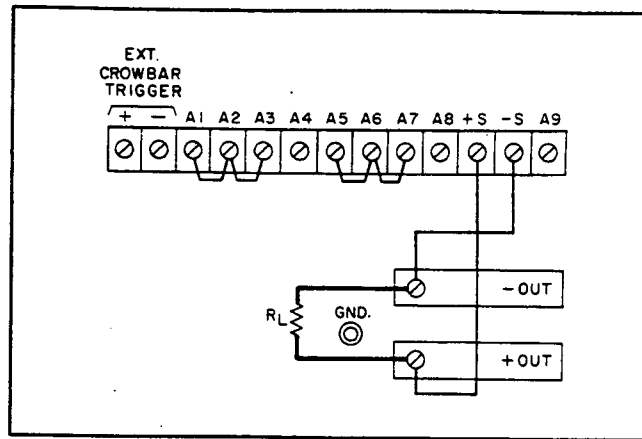

Figure 3-2. Normal Strapping Pattern
- a. Turn CURRENT controls ⑦ and OVERVOLTAGE ADJUST potentiometer ⑤ fully clockwise and check that rear panel straps are connected as shown in Figure 3-2, but do not connect load R_L .
- c. Set LINE switch or circuit breaker ① ON and observe that pilot lamp ② lights.
- d. Adjust COARSE and FINE VOLTAGE controls ③ for desired indication on voltmeter ④.
- e. Ensure that overvoltage crowbar circuit is operational by slowly turning OVERVOLTAGE ADJUST control ⑤ counterclockwise with a screwdriver until OVERVOLTAGE lamp ⑥ lights and voltmeter indication drops to zero volts.
g. To check the constant current circuit, first turn off the supply, connect a short across the output bus bars (see Figure 3-2), and turn it back on.
h. Adjust **COARSE** and **FINE CURRENT** controls ⑦ until ammeter ⑧ indicates desired output current or current limit. (The **VOLTAGE** controls must be set for a greater-than-zero output to obtain the output current programmed.)
3-7 This power supply was shipped with the proper rear panel strapping connections made for constant-voltage/constant-current operation with local sensing and local programming. This strapping pattern is illustrated in Figure 3-2. By means of the front panel voltage and current controls, the operator selects either a constant-voltage or a constant-current output. Whether the supply functions in the constant-voltage or the constant-current mode depends on the settings of the voltage and current controls and on the resistance of the output load. For values of load resistance greater than a critical crossover value equal to the voltage setting divided by the current setting, the supply operates in the constant-voltage mode. With a load resistance smaller than this critical value, it operates in the constant-current mode. The transition occurs automatically; no switches need to be operated or connections changed.
3-28 Because of the unavoidable voltage drop developed in the load leads, the normal strapping pattern shown in Figure 3-2 will not provide the best possible voltage regulation at the load. If, for example, one were to use 4-gauge wire to connect a load that is located only 5 feet from a
The +S jumper is the one that links the +S terminal to the +OUT terminal when the supply's terminals are strapped for normal operation as shown in Figure 3-2. The -S jumper is the one that links the -S terminal to the -OUT terminal.